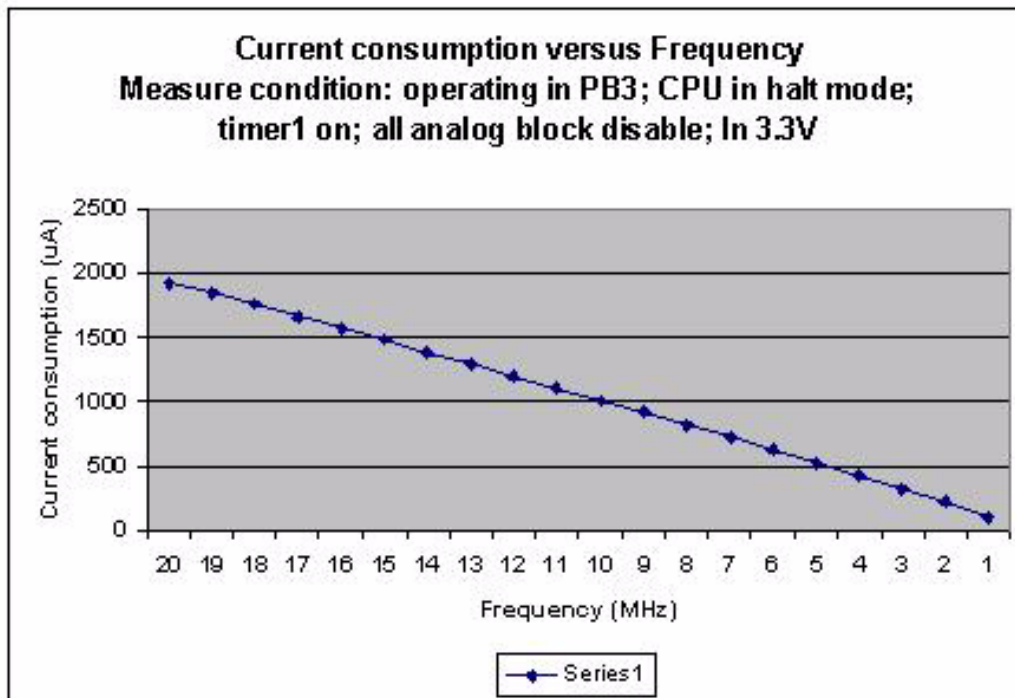

Figure 31. ICC Versus System Clock Frequency (HALT mode)
3. See Figure 31 for HALT mode current
Figure 31 displays the typical current consumption while operating at 25 °C, 3.3 V, versus the system clock frequency in HALT mode.